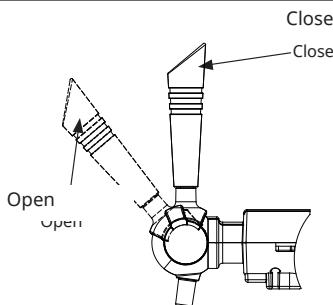

**Figure 9**
7. Temperature control function: The starting temperature is the previously set temperature. The cooling temperature can be adjusted by pressing the „+“ or „-“ button on the control panel. The temperature increases by one degree each time the „+“ button is pressed. Press the „-“ button once to decrease the temperature by one degree, the display will show the actual temperature of the beer in the keg, press any button to show the set temperature and return to the actual temperature after 3 seconds. Press and hold the „+“ and „-“ buttons to toggle between Fahrenheit and Celsius. The cooling temperature of the beer cooler is adjustable between 3 and 12 °C (37 and 53 °F) The machine has a power-off memory function (factory setting is 5 °C (as shown in Figure 9)).